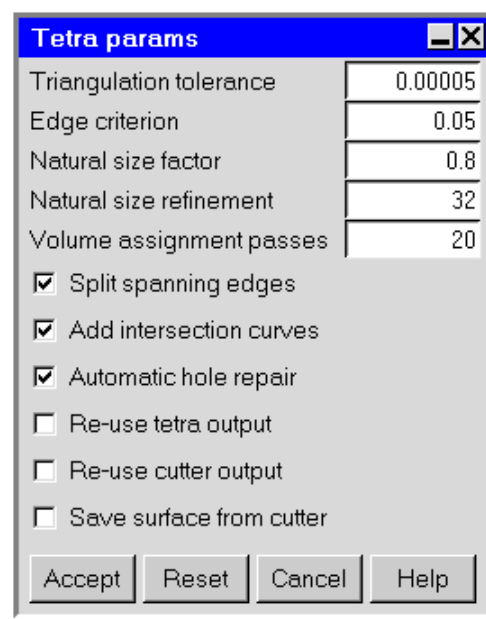

Figure 26.5.2: The Tetra params Panel
6. Additional meshing parameters (which you will generally not need to modify) are in the **Tetra params** panel (Figure 26.5.2), which you can open by clicking **Advanced parameters** in the Mesh control panel. These parameters are defined below.